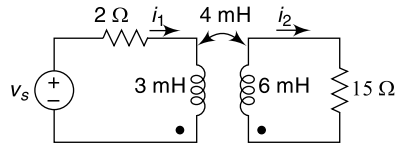

Fig. 14.15
14.26 For the circuit shown in Fig. 14.15 if $v_s = 30 e^{-500t} \text{ V}$, obtain the mesh equations for the two meshes.